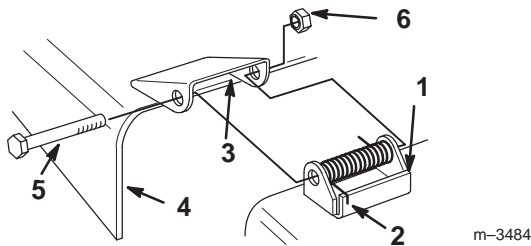

Figure 2
1. Place the springs into the brackets on the mower with the hooked ends over the raised back of the bracket (Fig. 2).
2. Align the discharge chute with the holes in the brackets and the spring straight ends in the space under the hinge and above the chute (Fig. 2).
3. Secure the chute to the bracket with bolts through the discharge chute, springs and brackets. Secure with lock nuts (Fig. 2).